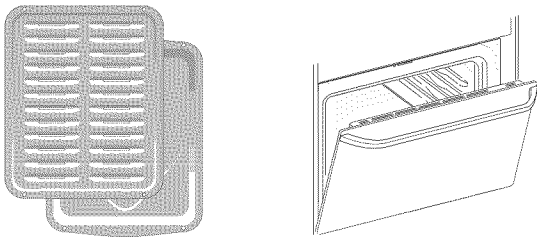

Figure 31: Broil pan and insert (L) Broil Stop position (R)
The broil pan and broil pan insert used together allow dripping grease to drain and be kept away from the high heat of the oven broiler (Figure 31). Do not use the broil pan without the insert. Do not cover the broil pan insert with foil. The exposed grease could catch fire.
2. Arrange the interior oven rack and place the broiler pan on the rack in the upper or lower oven. Be sure to center the broiler pan directly under the broiler element. Make sure the oven door is open to the broil stop position (Figure 31). Preheat the oven for 2 minutes.